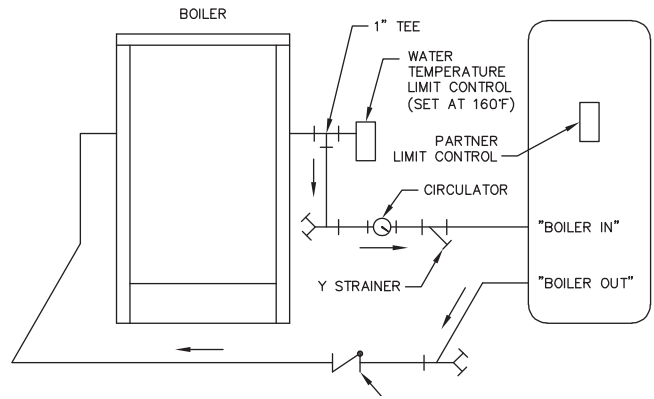

Figure 4.2: Typical Steam Boiler Indirect Water Heater Piping
1. See Figure 4.2 for typical installation.